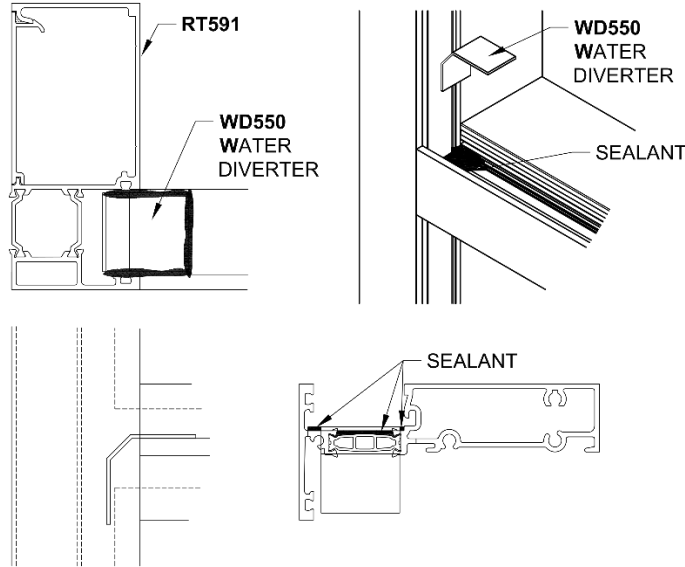

Figure 42: Pre-Glazed Water Diverter Installation
15.1.3 Install **WD550** Water Diverter at Jamb. *Figure 42* shows the various views for Water Diverter installation. Embed the Water Diverter in Sealant and seal around the Horizontal to guide water flow.